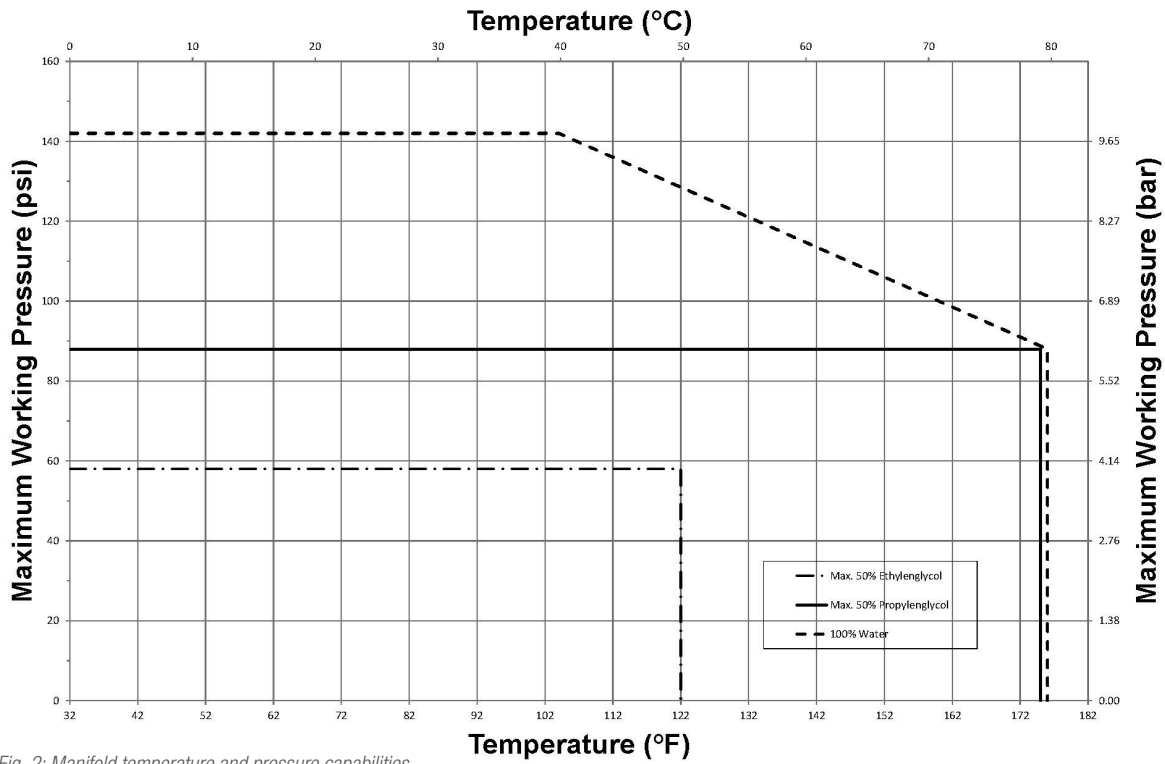

Fig. 2: Manifold temperature and pressure capabilities
- Propylene glycol and ethylene-based glycols at maximum 50% concentration are recommended within temperature pressure ratings shown in Fig. 2 in case freeze protection of the system is necessary. Alcohol-based glycols are not permitted because they can lead to system failure.